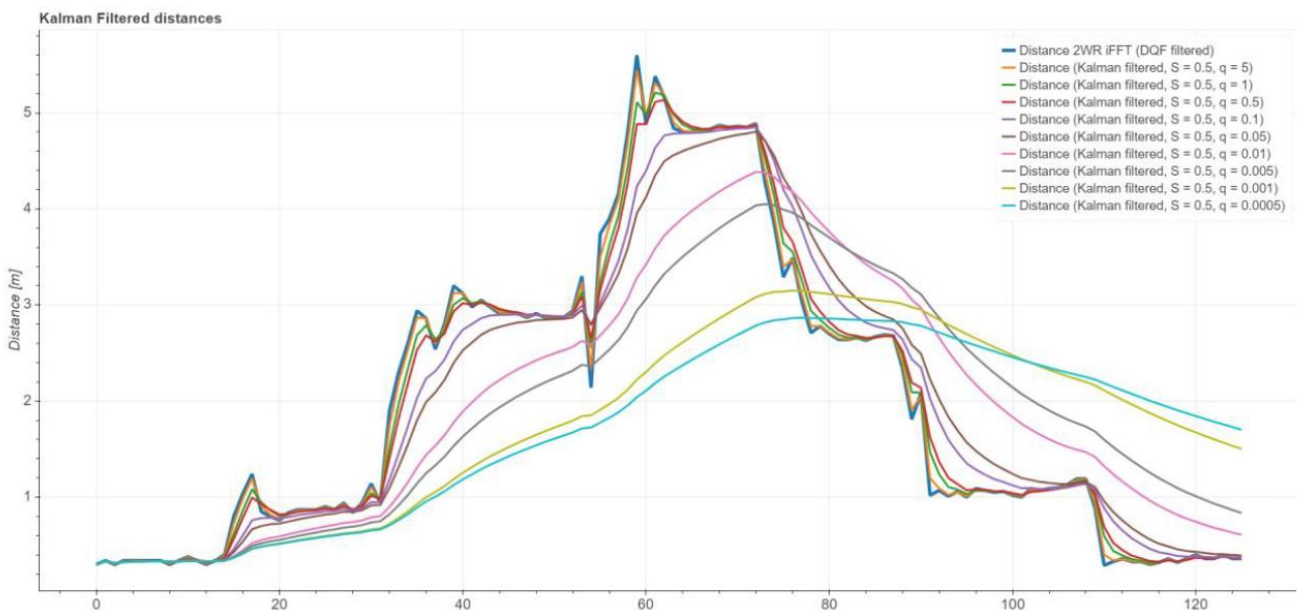
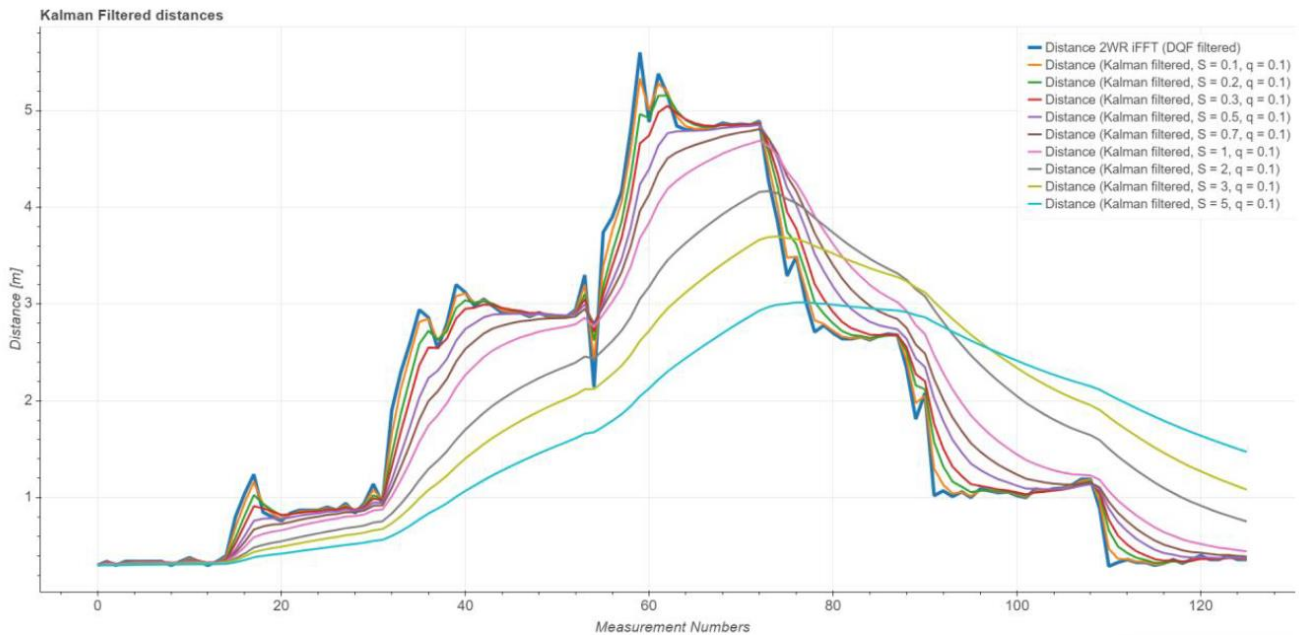

Figure 6. Influence of process noise variance in Kalman's filter responsiveness
Figure 7. Influence of measurement noise variance in Kalman's filter responsiveness
- **Kalman filter:** an algorithm that uses a series of measurements observed over time, containing statistical noise and other inaccuracies, is applied to produce estimates of unknown variables that tend to be more accurate than those based on a single measurement, by estimating a joint probability distribution over the variables for each timeframe. There is a tradeoff between responsiveness and smoothing of the output of the Kalman filter, that can be controlled by variance process noise (q) and variance measurement noise (S) parameters. Visualization of the impact of S and q parameters are shown in Figure 6 and Figure 7.